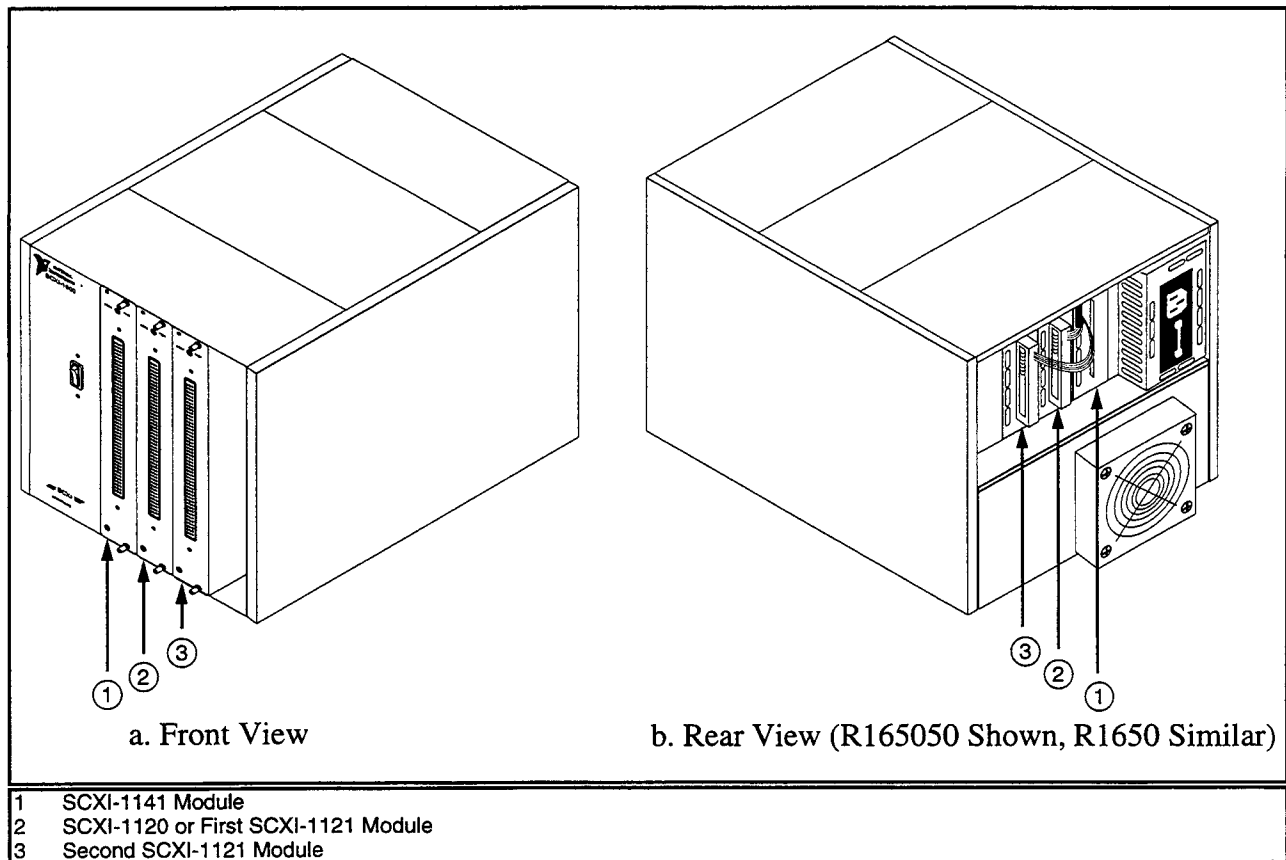

Figure 3. SCXI Modules Installed in the SCXI Chassis
2. Configure the slots containing the SCXI-112x modules as empty slots. For example, if you have a chassis configuration similar to Figure 3, with an SCXI-1141 in slot 1, an SCXI-1121 in slot 2, and an SCXI-1121 in slot 3, then your software configuration should contain these modules: